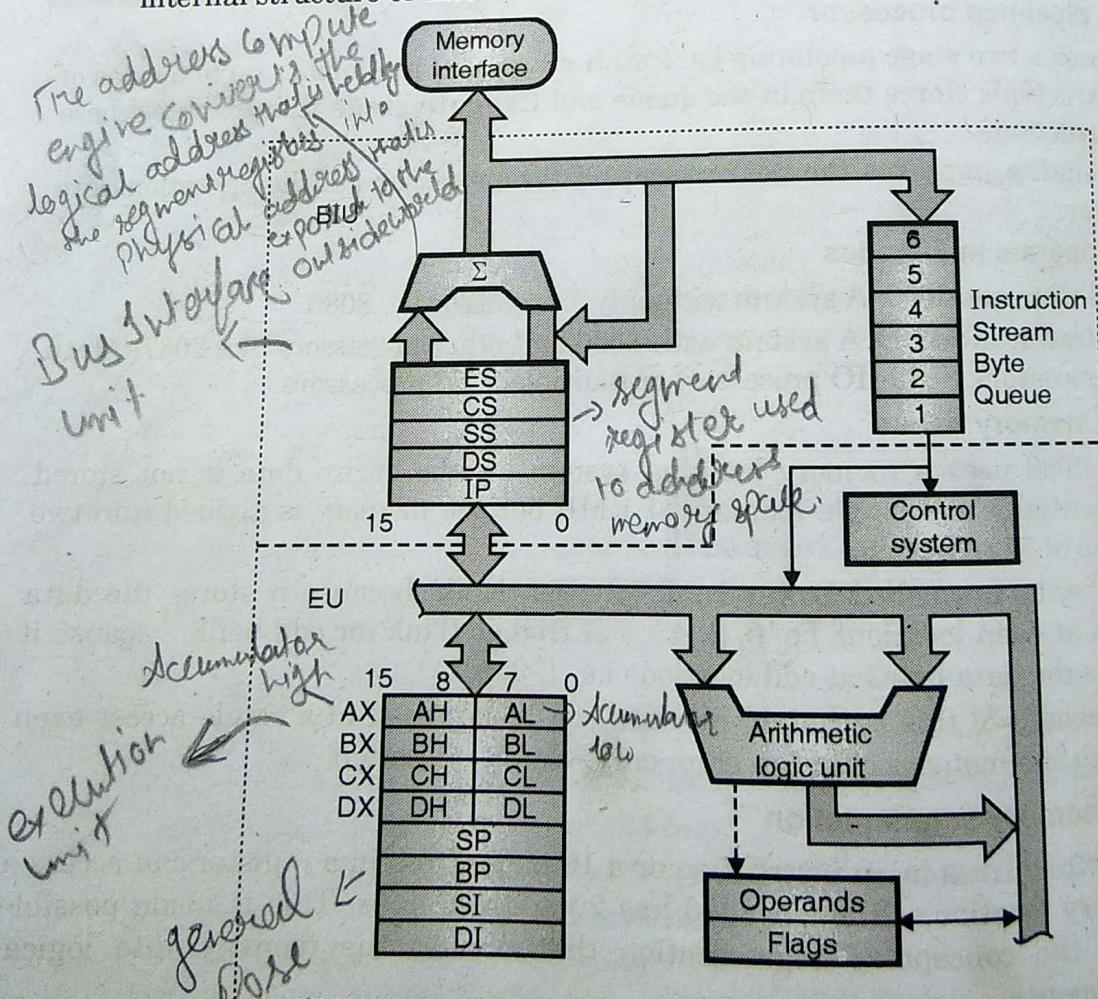

Fig. 11.3.1 : 8086 internal architecture
- (1) It has 256 vectored interrupts : There are also non-vectored interrupts in 8086, but they are routed to one of these interrupts.
- (2) It has 14, 16-bit registers.
- (3) It has a powerful instruction set, that supports multiply and divide operations also. (These operations were not possible in the processors earlier to 8086).
- (4) 8086 can perform operations on bit, byte (8-bit), word (16-bit) or a string (block of data) types of data.
- Before talking about programming, we need to discuss the special features and internal architecture of Intel 8086. Fig. 11.3.1 shows the block schematic of the internal structure of Intel 8086.